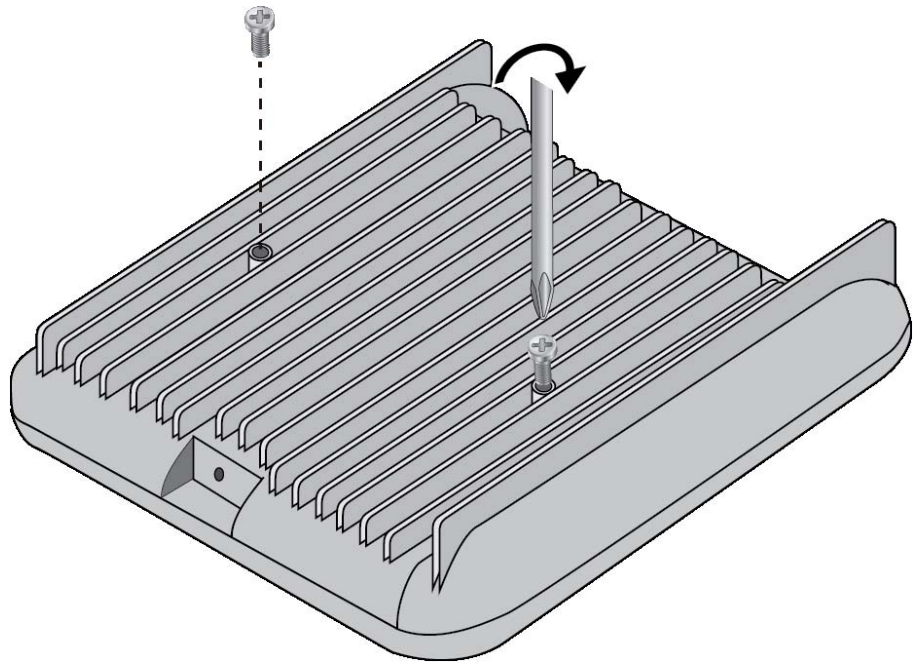

Figure 17. Installing the Bracket Screws to the Wireless Access Point
2. Install the two screws (provided) in the bottom side of the access point chassis. Leave the screws loose enough so that you can slide the bracket under the screw heads. Refer to Figure 17.